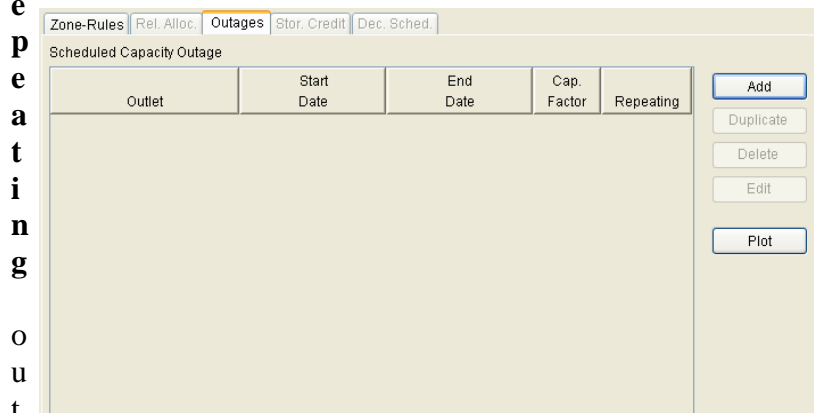

Figure 11.101 Scheduled Capacity Outage Editor
2. **Outages** The **Outages** tab becomes available (Figure 11.101) where you will enter the specific outage information including: the **Outlet**, the Starting and Ending **Dates** of the outage, the **Capacity Factor**, and an indicator for whether or not this is a **Repeating**